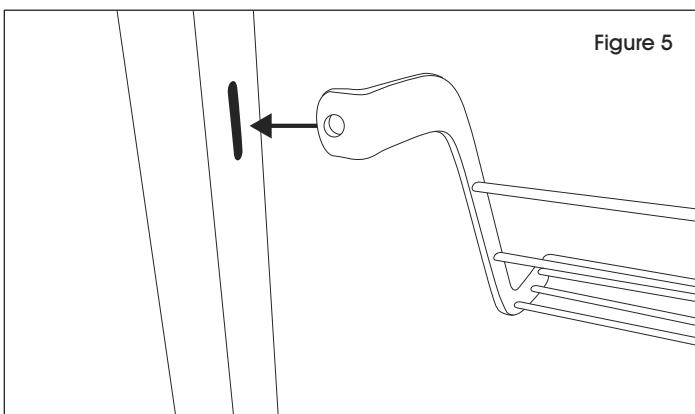

Figure 5
6. Insert the shoe racks by sliding one protruding end into the slot in the inside of the A-frame, then repeat with the other end. (See Figure 5)